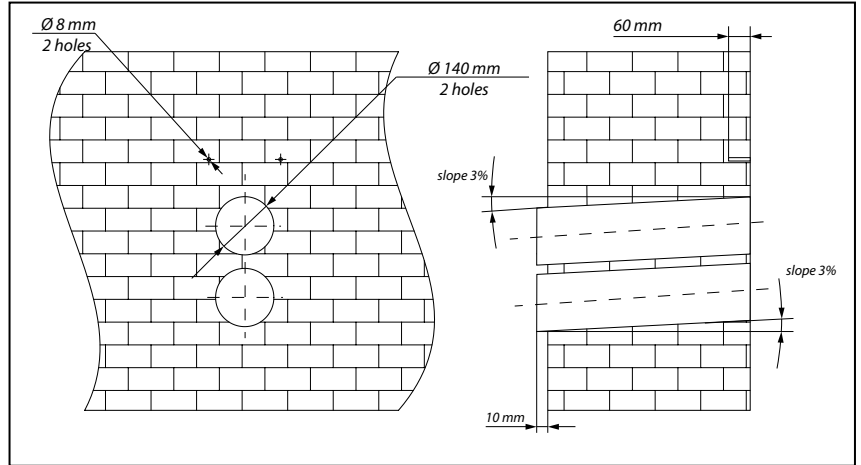

Fig. 6.
3. Remove the master plate and drill through holes sloped down by 2-3° for the air ducts and the holes for the dowels, 60 mm deep. Then insert the dowels from the delivery set. Fig. 6